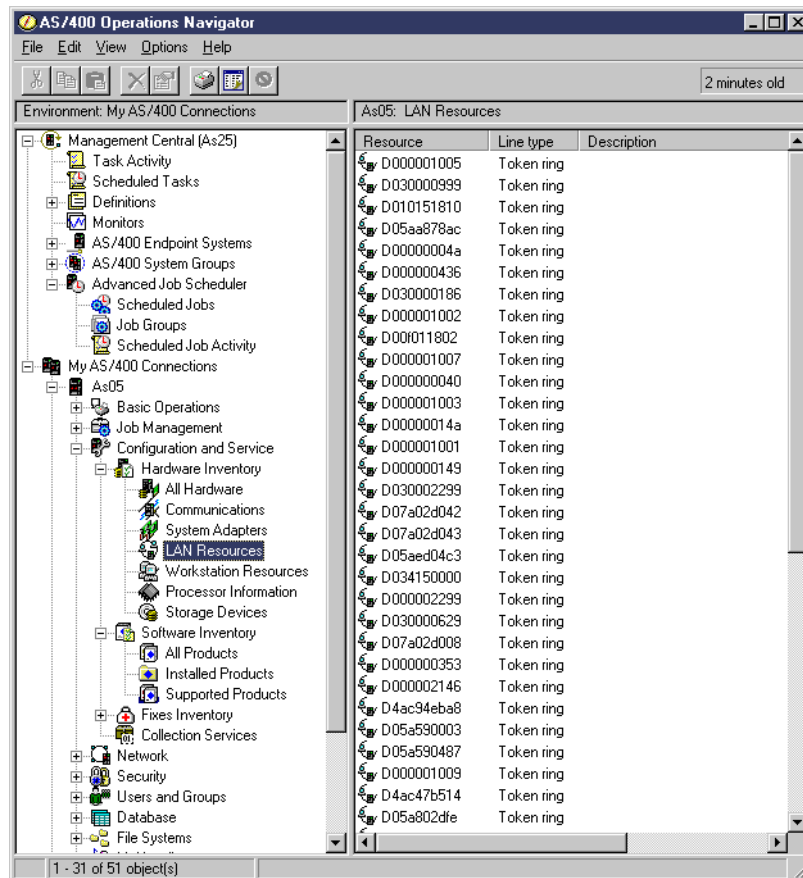

Figure 75. Operations Navigator inventory display
5. Select the particular inventory you wish to view. The display will be similar to the view under Management Central, but will show subgroups under hardware and software inventories. Refer to Figure 75 on page 98 for the subgroups under the inventories.